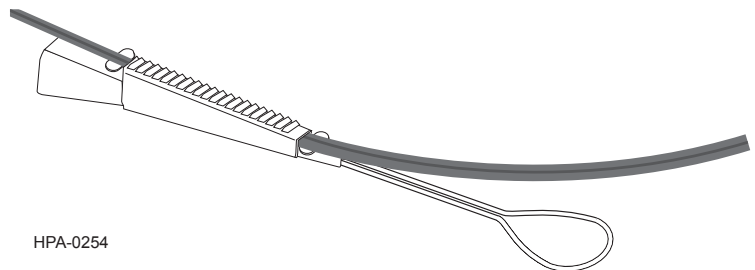

Figure 2
Step 1: Use a wedge clamp to secure the cable in an aerial application (Figure 2).